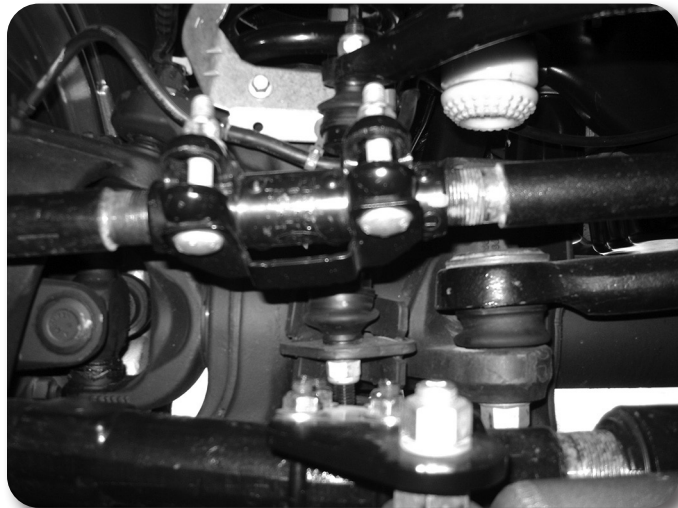
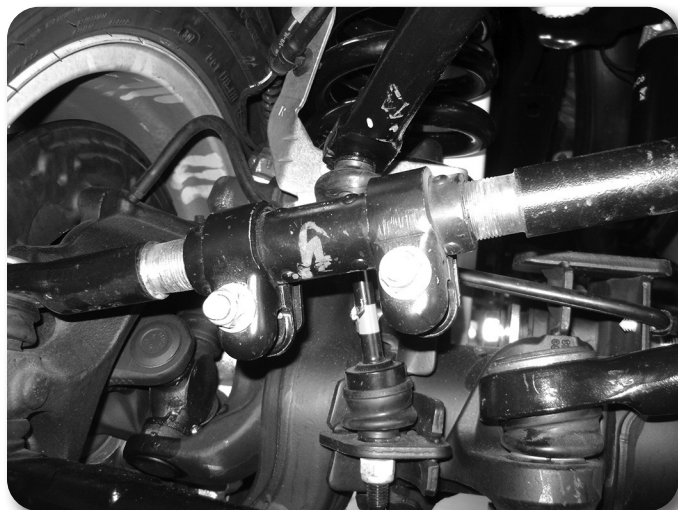

Figure 28A *Incorrect*
Figure 28B *Correct*
4. Adjust steering wheel with adjustment on the draglink, do NOT drive the vehicle with the steering wheel off-center or adverse traction control affects may arise. Rotate the clamps once the steering wheel is straight as shown. (Figure 28A - incorrect, clamps will interfere with sway bar, Figure 28B - correct clearance). Torque clamps to 41 ft-lbs. Thread the collar to lengthen the drag link.